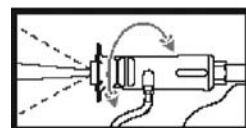

Figure 9
- Twist nozzle cover to adjust spray pattern from jet to wide fan spray (Figure 9).